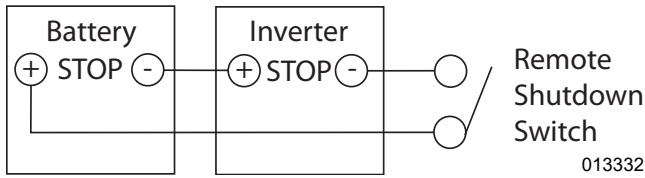
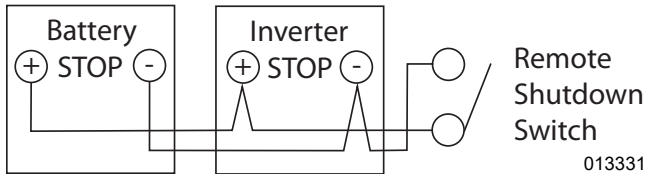

Figure 5-5. Remote Shutdown Switches Series Wiring
Figure 5-6. Remote Shutdown Switch Parallel Wiring
4. See Figure 5-5 and Figure 5-6. Use 20 – 14 AWG two-conductor cable with insulation rated for 600 V to connect a switch that is lockable, UL listed, and rated for at least 12 VDC, 5 mA (consider a standard single-pole light switch in a weather proof box with a lockable lever).